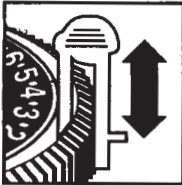

Fig. 1
1. Insert ON (green) and OFF (red) trippers into dial at desired ON and OFF times (Fig. 1). Be sure trippers are firmly pressed against dial surface and at least one space is left between ON and OFF trippers (Fig. 2).